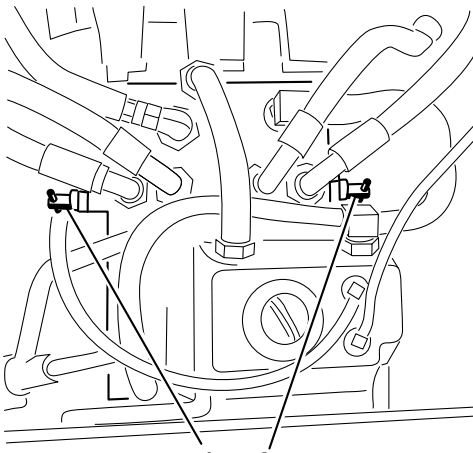

Figure 20
3. Rotate **both** by-pass valves counterclockwise 2 turns (Figure 20).
Rotate each by-pass valve clockwise and hand tighten them (torque of approximately 71 in-lb (8 N·m)) (Figure 20).